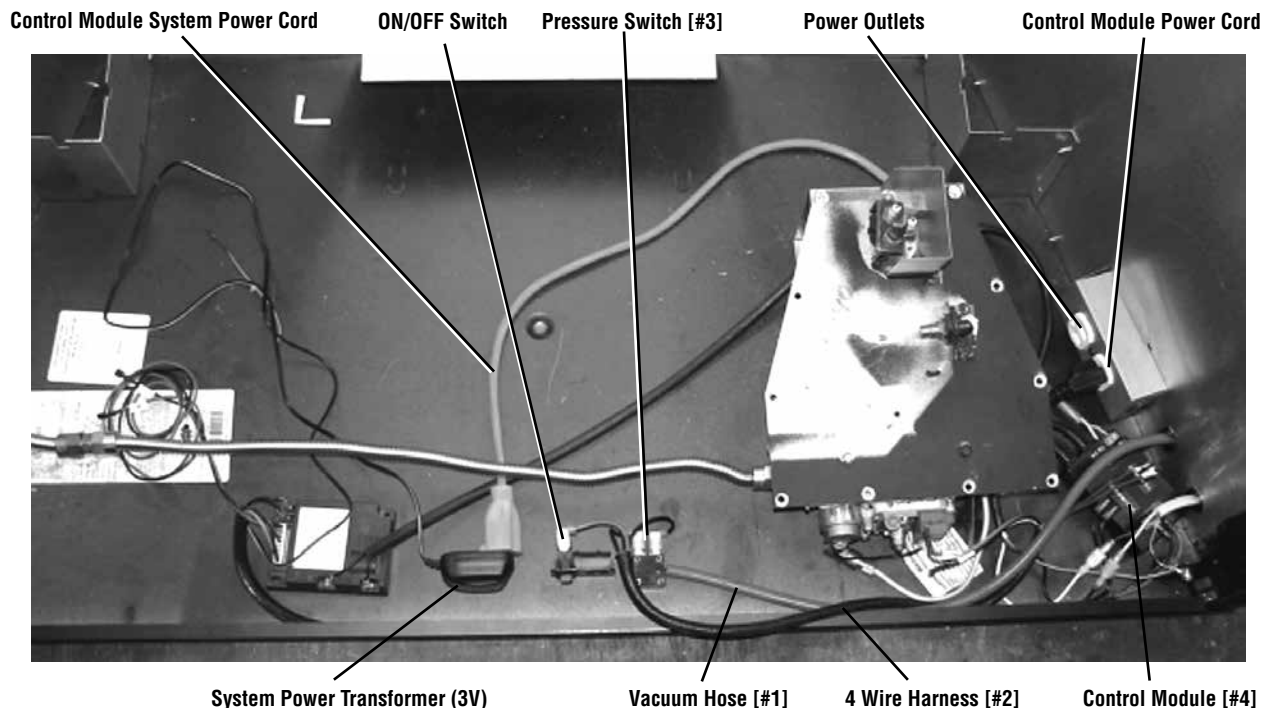

Figure 14 - General System Layout (firebox floor removed for clarity)
Refer to the general system layout shown in **Figure 14**.
- Disconnect the system power transformer (3V) from the power outlet (**Figure 14**).
- 9A.6. Position the **pressure switch** [#3] on the fireplace cabinet bottom, and secure using provided **Velcro strips** [#4] (refer to **Figures 14** and **18**).
- 9A.11. Ensure all components are properly placed (see **Figure 14**).